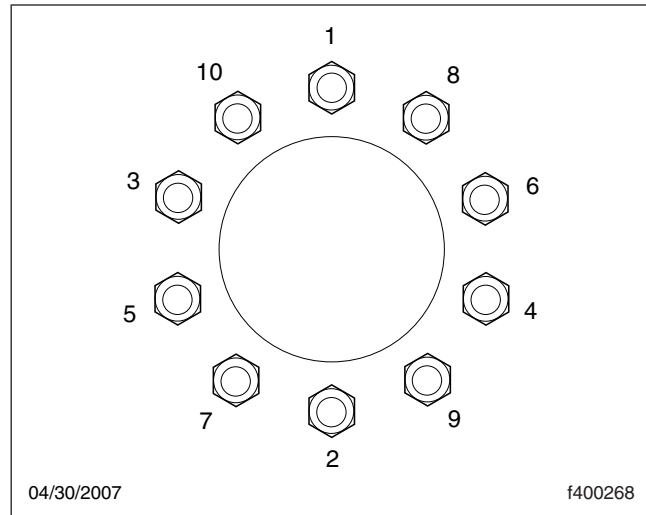
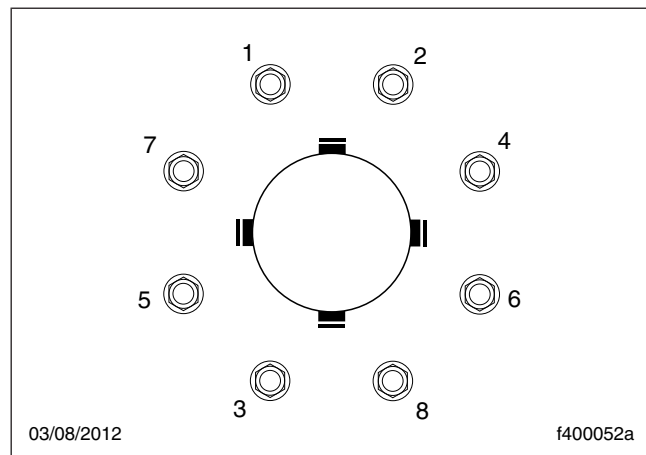

Fig. 23.4, Tightening Pattern, 10-Hole Wheels
Fig. 23.5, Tightening Pattern, 8-Hole Wheels
- 3.3 Make sure all wheel nuts are tightened. If tightening is necessary, use the tightening pattern in Fig. 23.4 or Fig. 23.5 to initially tighten the flange nuts to 50 to 100 lbf·ft (68 to 136 N·m). Then tighten the flange nuts to 450 to 500 lbf·ft (610 to 678 N·m).